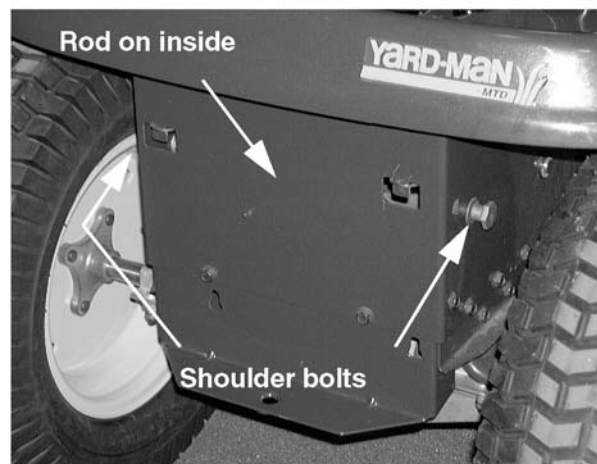

Figure 8-44.
7. If the tractor comes equipped with shoulder bolts attached to the rear hitch plate, you must remove them using an 11/16" and a 15/16" socket. Set them aside. See Figure 8-44.